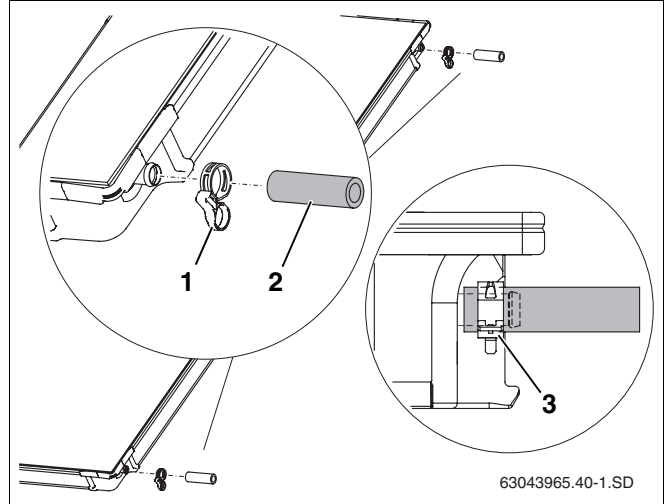

Fig. 42 Pre-assembling the connection set on the second collector
- ▶ Push 95 mm solar hoses (Fig. 42, **Item 2**) onto the right-hand connections on the second and any subsequent collector.
- ▶ Push hose clips (Fig. 42, **Item 1**) over the solar hose (the second clip will enable the other collector to be connected later).
- ▶ Once the hose clip is sitting correctly, pull the locking ring to secure the connection (Fig. 42, **Item 3**).